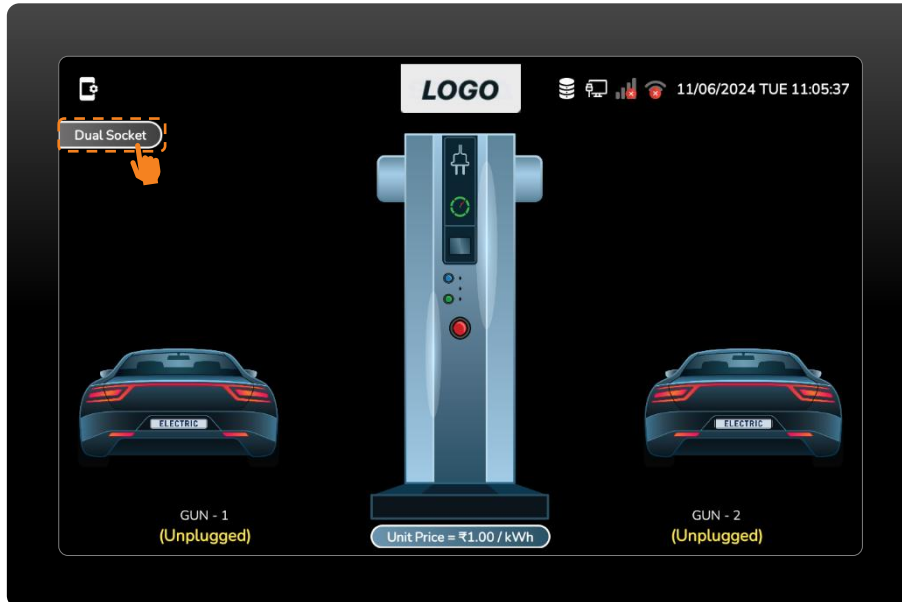

Figure 82 Dashboard: Switch to Single to dual Socket.
- To switch from single to dual sockets, press the dual socket button. (Figure 82)